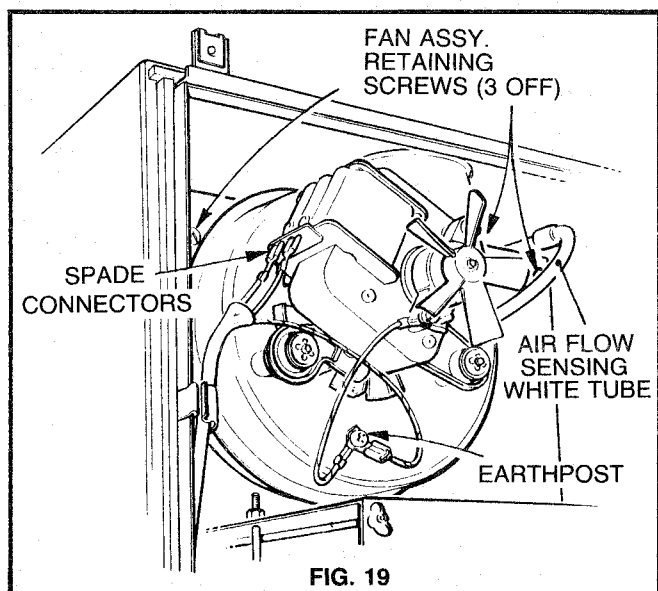

FIG. 19
7.5 INSPECT AND CLEAN THE FAN (Fig. 19)
8.8 TO REPLACE THE FAN (Fig. 19)